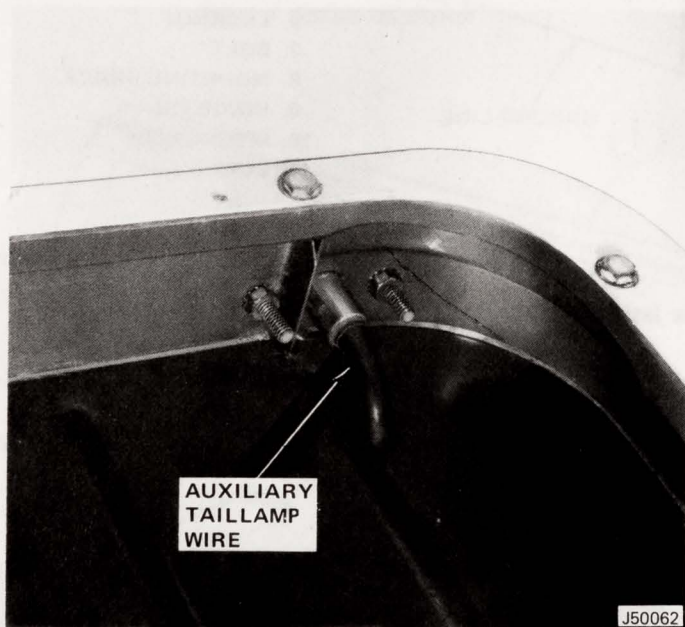

Fig. 1-12 Taillamp Wire Routing
(2) Drill 5/16-inch diameter hole in wheelhousing for taillamp wire (fig. 1-12).